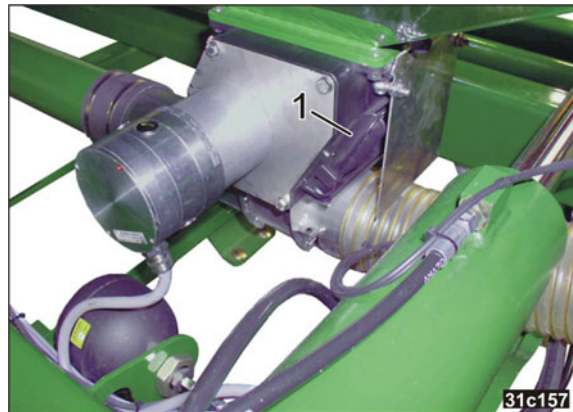

Fig. 178
- 1.1 Remove the key (Fig. 178/1) from the holder.